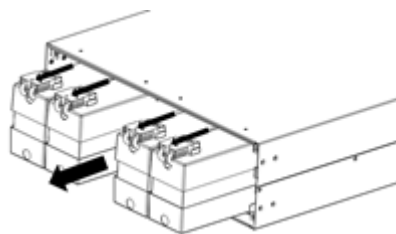

Figure 6
- b. There are four module packs for the BP192V10CRTXL. (Figure 6)